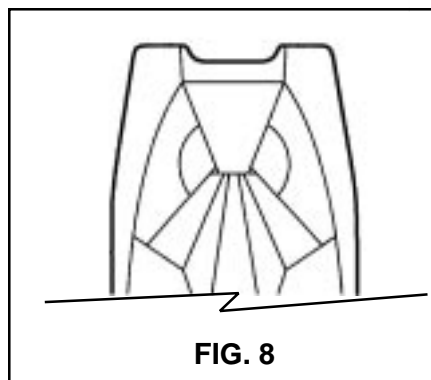

FIG. 8
8. Close the riser covers over the main risers (FIG. 8).